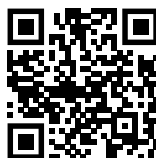

Fig. 84
- ▶ Otevřete Liebherr SmartMonitoring Dashboard. (viz Fig. 84)